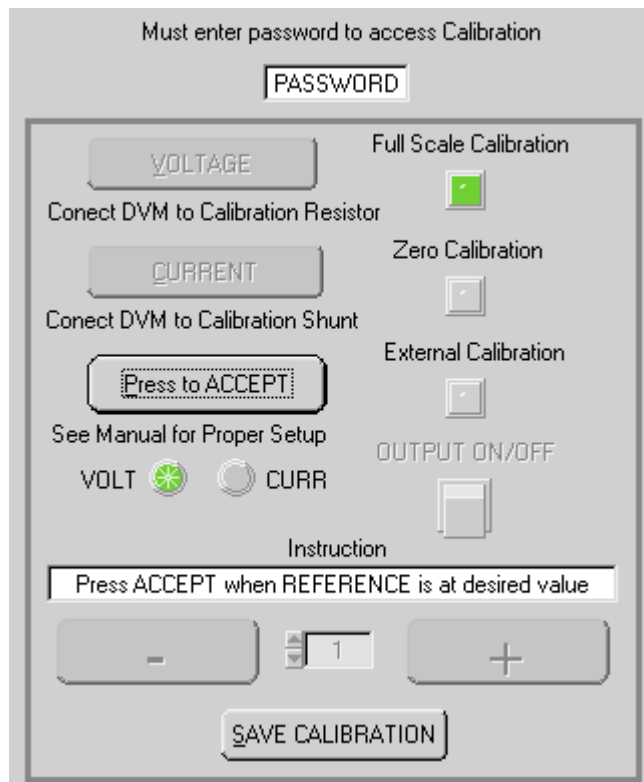

FIGURE 4-4. ANALOG REFERENCE CALIBRATION WINDOW
1. Click the **ANALOG REF** button on the Calibration Window; the Analog Reference Calibration Window (Figure 4-4) appears and the status display on the VXI main panel reads **INPV**. When the reference voltage is at the desired value, click the **PRESS TO ACCEPT** button to accept the value. When the calibration is saved, this analog voltage will be equivalent to full scale output voltage. NOTE: **The full scale output voltage is determined by the virtual settings in effect.**